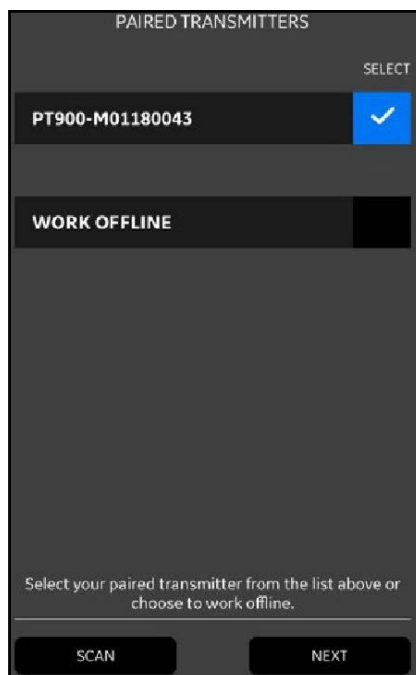

Figure 68: Paired Transmitters List
11. Click the BACK button on the tablet to return to the PT900 APP main menu. Then, select your PT900 transmitter in the TRANSMITTERS PAIRED list and click NEXT to open the Main Menu. For example, the PT900-M09160025 transmitter is selected from the list in *Figure 68* below.
- Note:** If desired, you may simulate the APP operation without connecting to the transmitter. To do so, click the *WORK OFFLINE* option in *Figure 68* above.